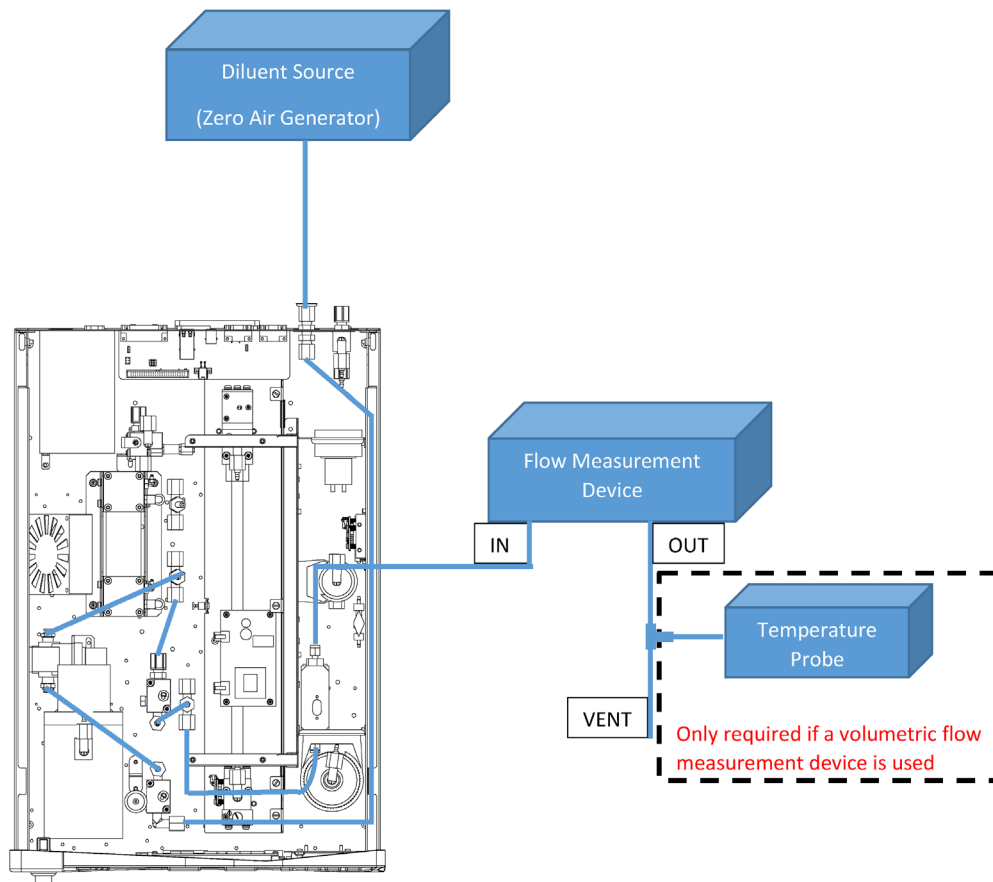

Figure 60 – MFC Calibration Setup
5. Connect the flow measurement device directly to the output port of the MFC (refer to Figure 60).